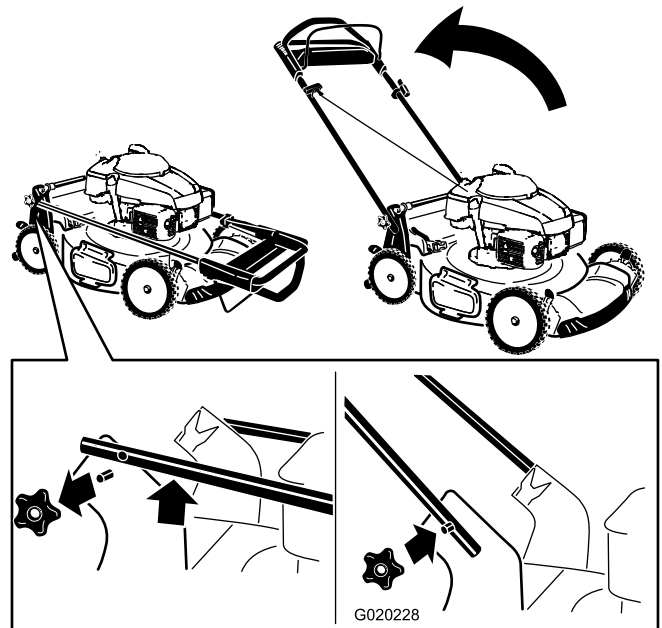

Figure 4
1. Remove the handle knobs from the machine housing (Figure 4).